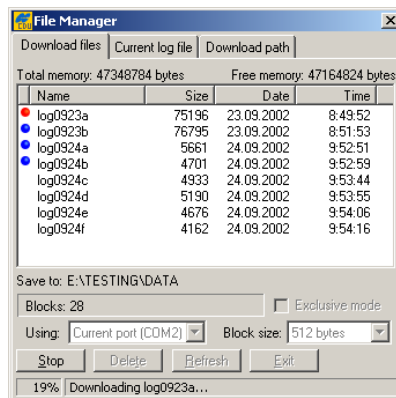

Figure 5-12. Download Files – Status Indicators
- Click **Download**. During the download, status indicators display next to each file (Figure 5-12).